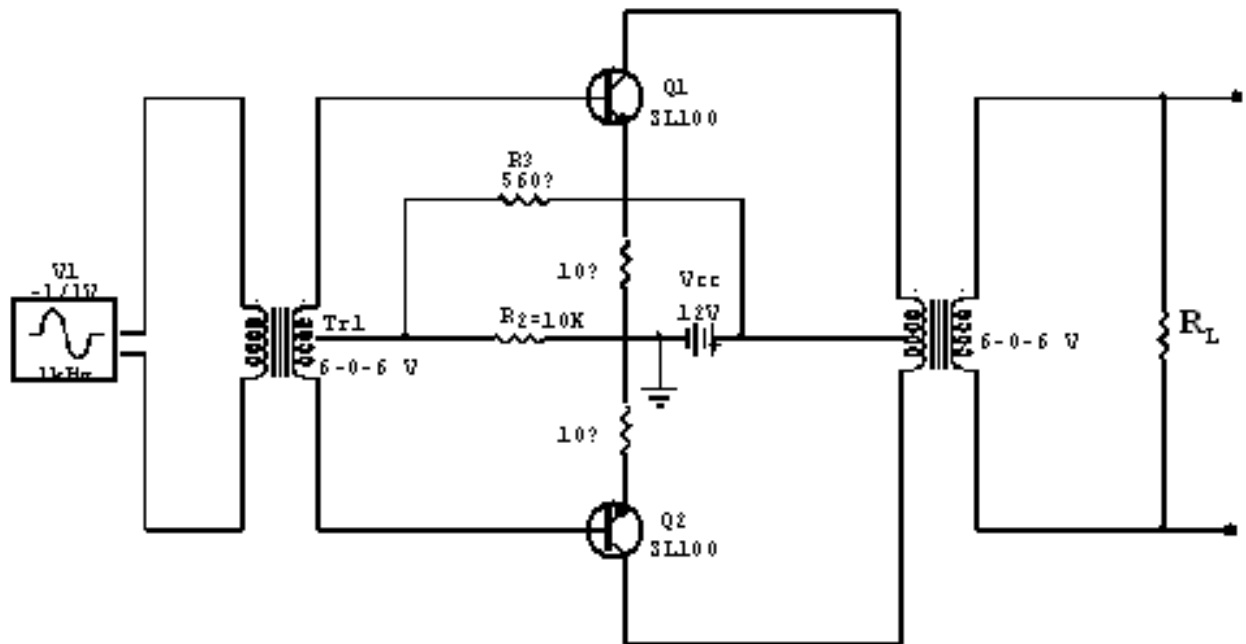

Fig.3.1 Push Pull Amplifier
1. Connect the DC supply (12 V) to the circuit (fig 3.1) from the source.